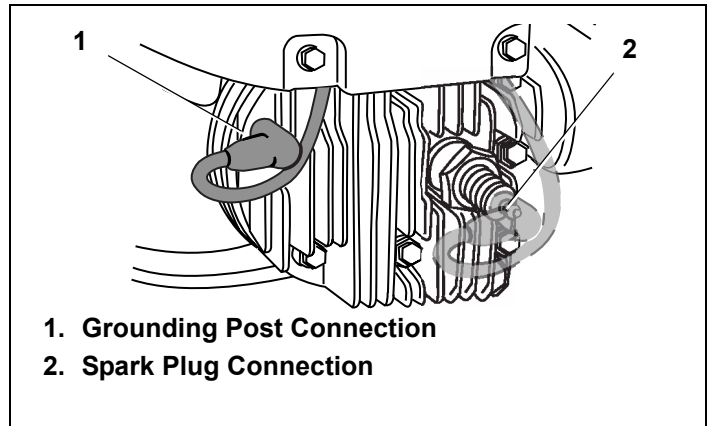

Figure 54. Typical Grounding Post/Spark Plug Connection
- Carefully attach the spark plug wire to the grounding post, if provided. See Figure 54.
9. Carefully disconnect spark plug wire from grounding post, if provided. See Figure 54.